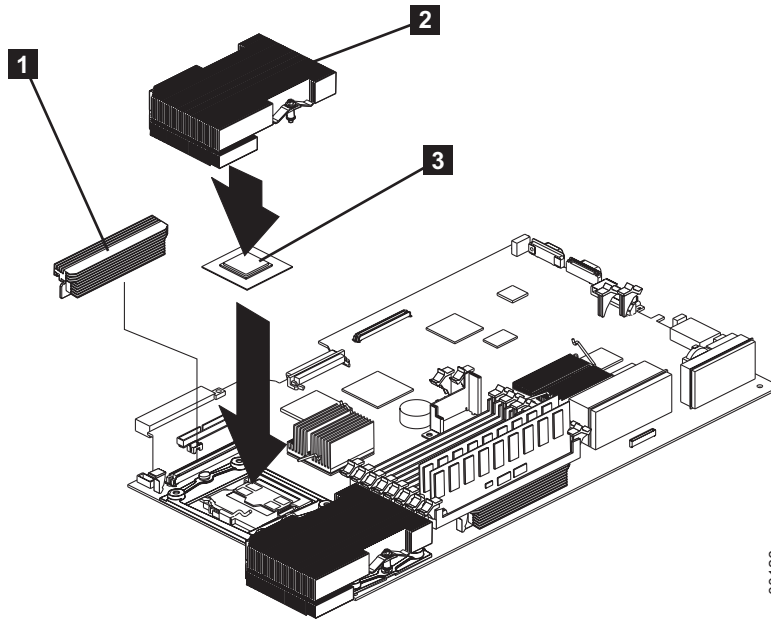

Figure 262. Microprocessor and heat sink locations
7. Install the heat sink **2** on top of the microprocessor **3**, as shown in Figure 262.